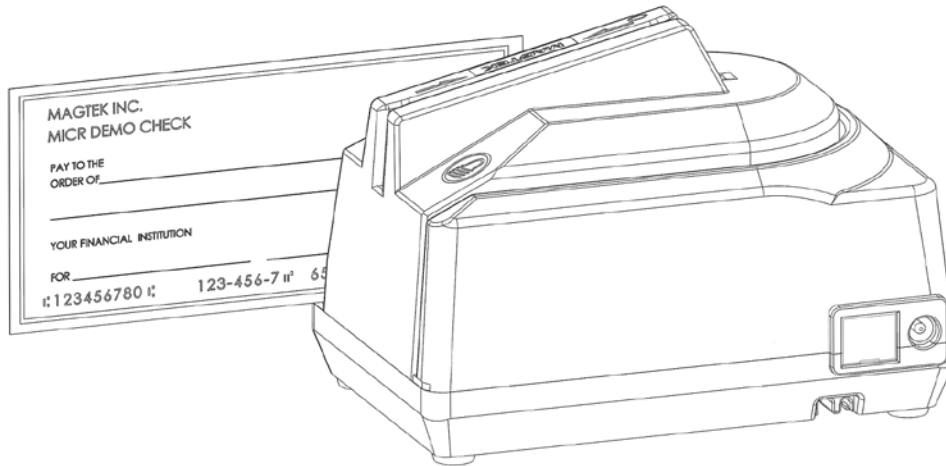

Figure 3-1. Check Orientation
1. Orient the check so the MICR line is down and the printed side faces the center of the MICRSafe as shown in Figure 3-1.